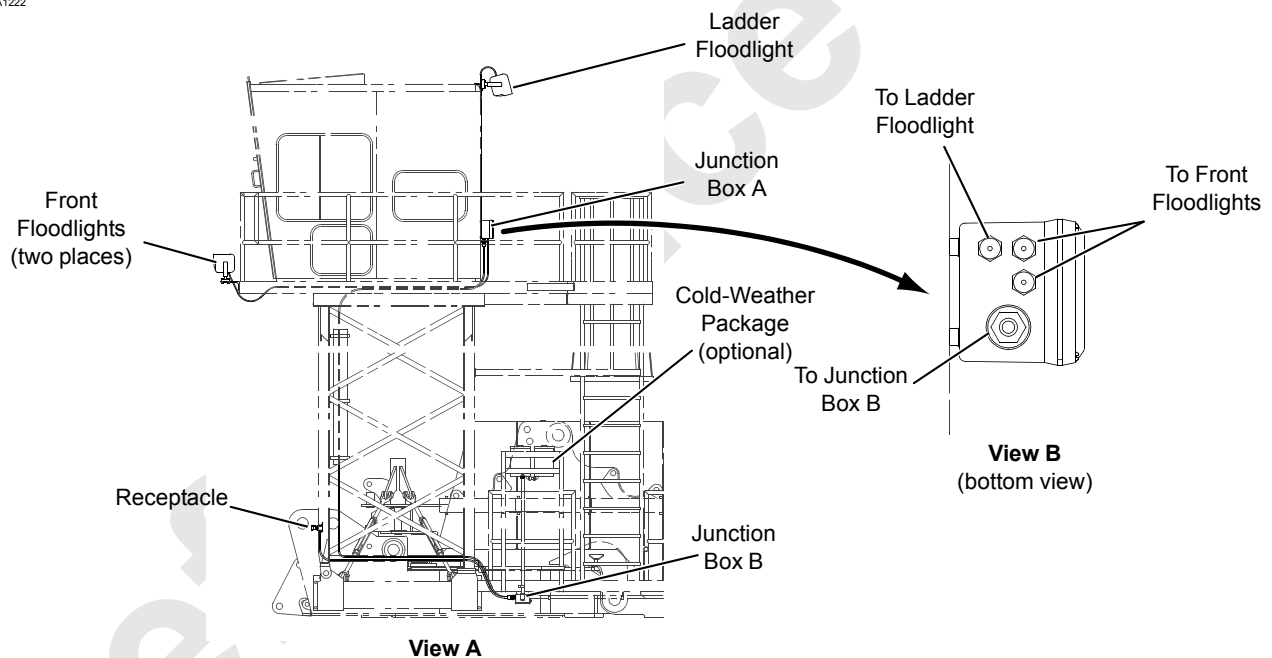

FIGURE 4-25
4. Connect the cab exterior lighting to the junction boxes (Figure 4-25).
- Electrical cable, receptacle, and cold-weather package (if provided) from junction box B under the catwalk (Figure 4-25, View A)